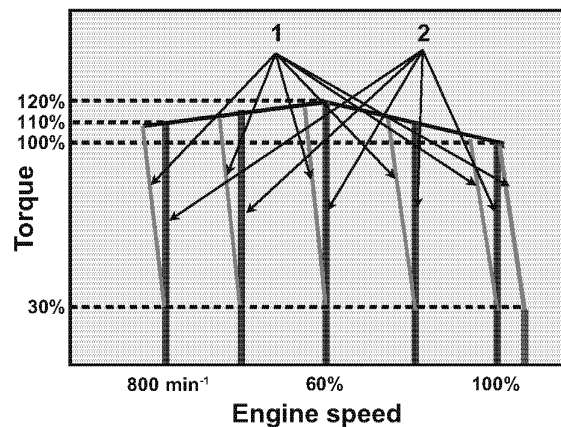

Figure 12
Figure 12 shows typical engine speed curves that outline the relationship between engine speed and load.
The VM series engines for general use are designed so that the engine speed is reduced by a certain percentage from 30% load to full rated load. See curves (1) in **Figure 12** below. The same percentage droop is maintained at any no-load speed.
The CL series consists of isochronous design engines, the speed of which is kept constant from no load to full rated load. See curves (2) in **Figure 12** below.